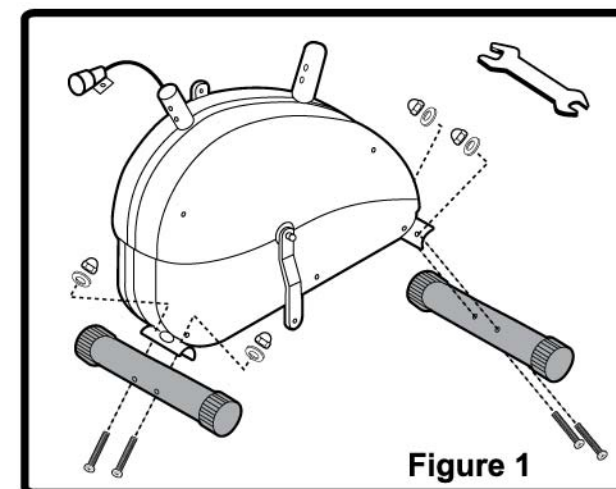

Figure 1
• Attach the Foot Tubes to the Main Frame with "M8 x 60MM" Screws with 4 "M8" plastic washers and "M8" Cap Nuts. Tighten with Hex Driver and Spanner. As shown in Figure 1.